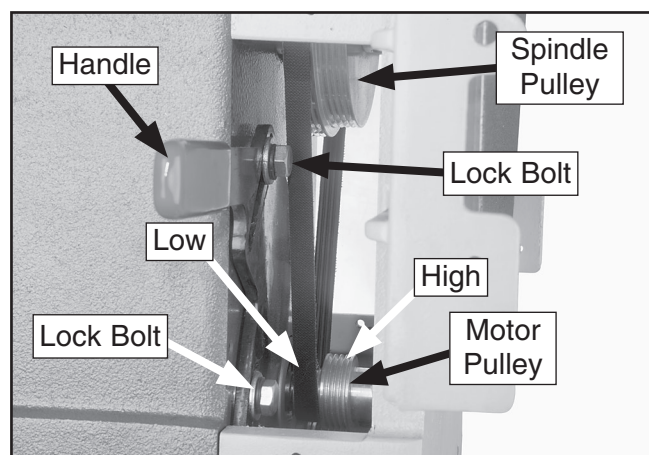

Figure 2. Belt tension controls.
3. Loosen the adjustment bolt (**Figure 2**).